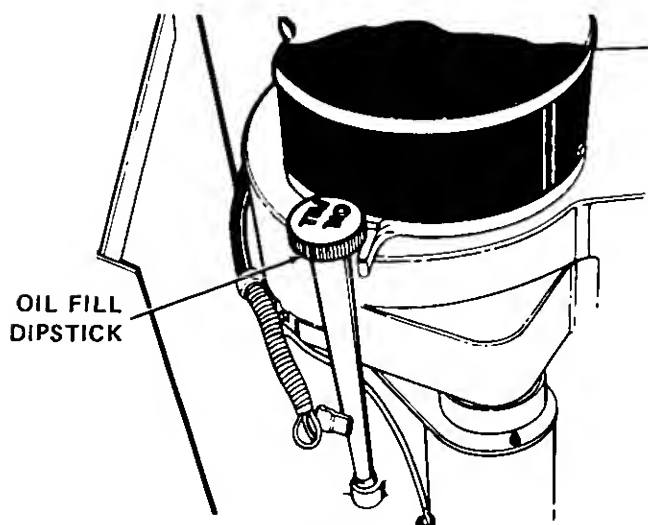

Figure 15.
1. Check oil level. The oil fill and dipstick are located on the right rear side of the engine. (See Figure 15.)